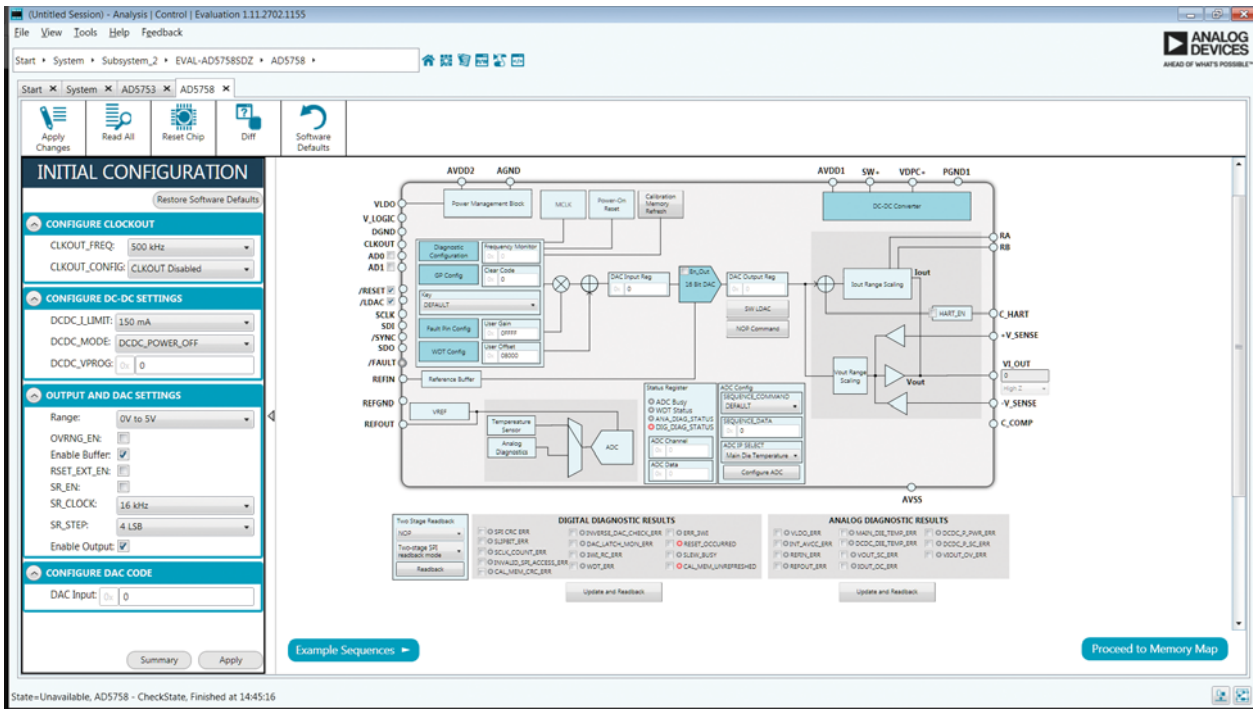

Figure 7. **AD5758** Block Diagram in the **ACE** Software
7. Double-click **EVAL-AD5758SDZ** to open the **AD5758** block diagram (see Figure 7). The **INITIAL CONFIGURATION** pane appears on the left side of the window. Several register settings can be configured in this pane and are written to the device in the appropriate order. The **DIG_DIAG_STATUS**, **RESET_OCCURED**, and **CAL_MEM_UNREFRESHED** LED indicators in the window are illuminated red by default.